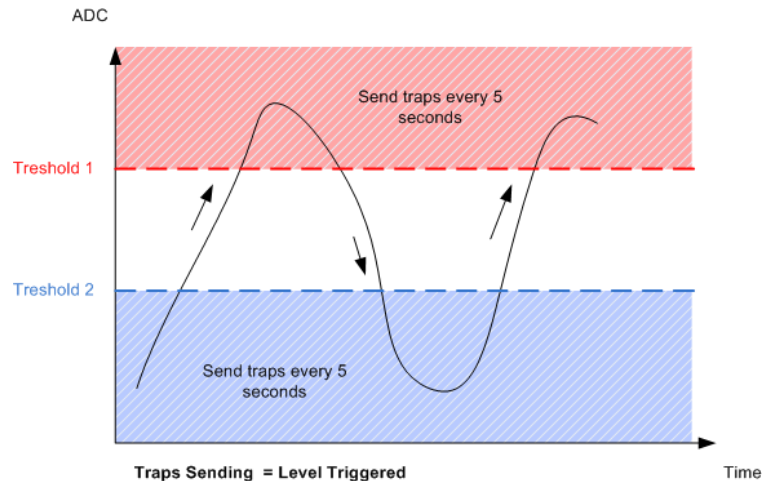

Figure 7.19. Sending tarps with Traps Sending = "Level Triggered"
- If **Traps Sending** parameter from web page "**SNMP Traps Settings**" is set to "**Level Triggered**" and if the Analog Input measured value is less or equal than **Low Threshold** or greater or equal than **High Threshold** traps will be sent every 5 seconds (Figure. 7.19);